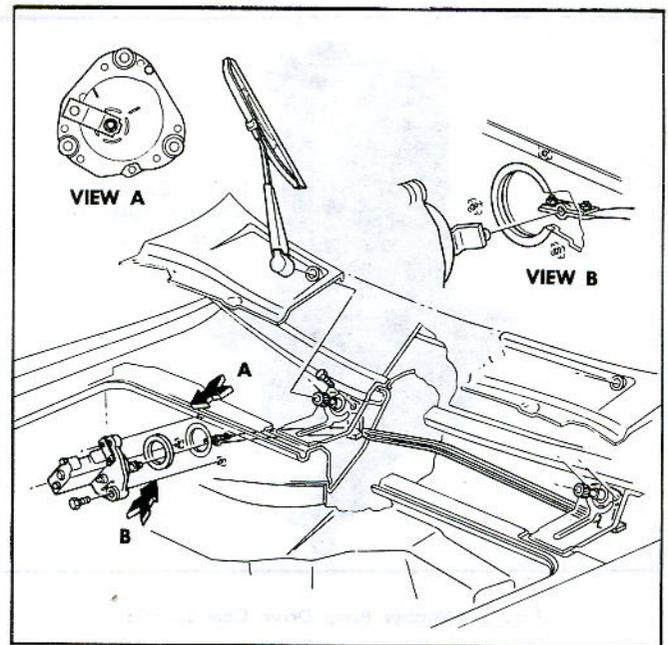

Fig. 29—Windshield Wiper Assembly
REMOVAL AND INSTALLATION (Fig. 29)
3. Loosen nuts retaining drive link to crank arm ball joint and disconnect drive link from crank arm (View B, fig. 29).
4. Loosen nuts retaining drive arm to crank arm ball stud (View B, fig. 29).